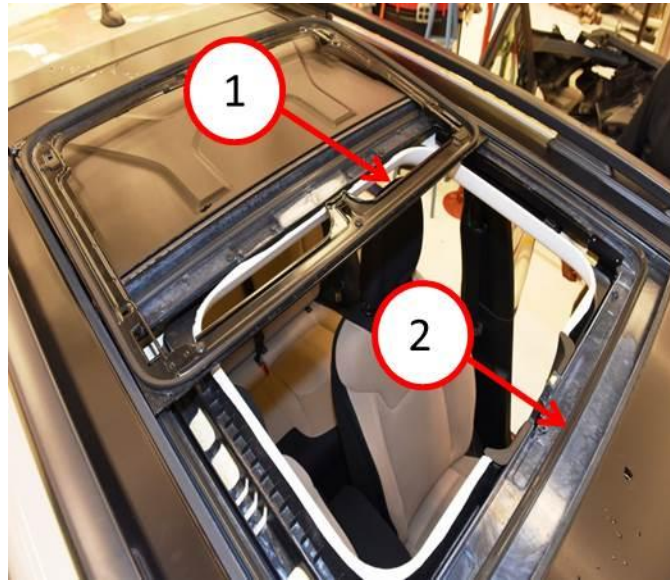

Fig. 5 Frame And Primary Seal
19. Manually slide the roof panel frame rearward to access the primary seal (Fig. 5).